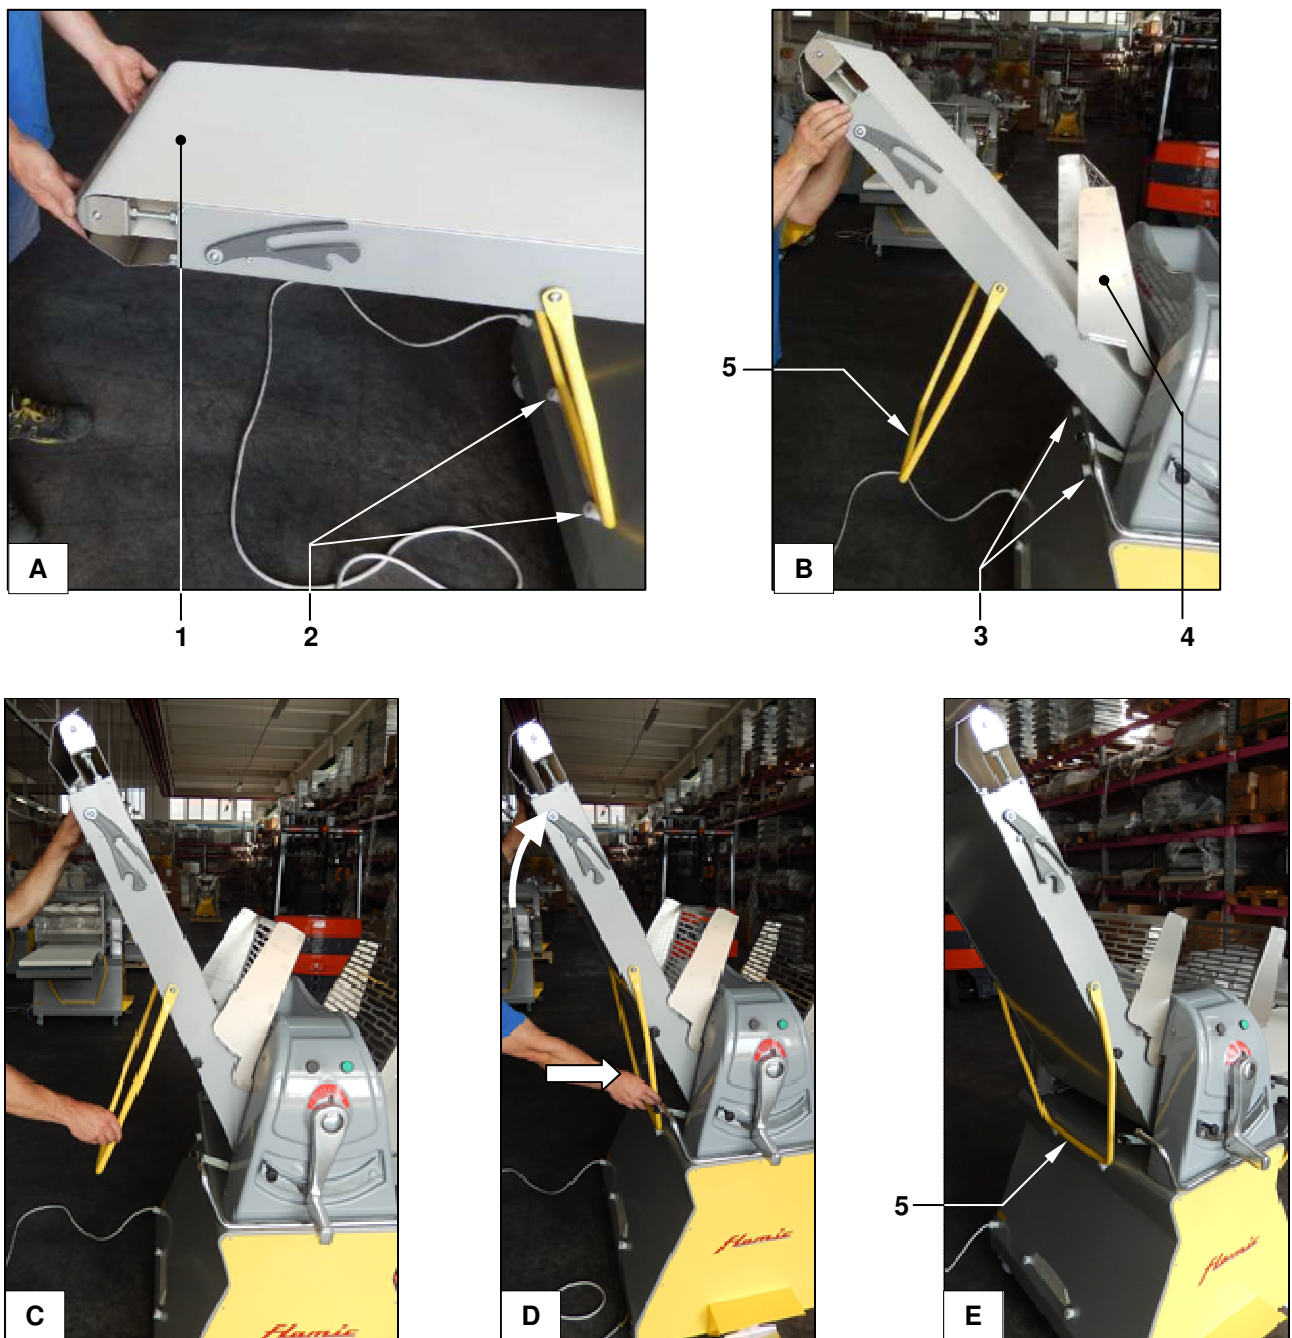

Figure 18 - Raising/lowering the benches (mod. SF600)
With reference to Figure 18, to move a bench ref. 1 from the position shown in photo A to the position shown in photo E:
- raise the guard ref. 4 completely (see section 3.5.1)
- raise the table ref. 1 (photo B)
- for table lengths of ≤ 850 mm: whilst keeping the table raised with one hand, with the other place the horizontal bar of the support ref. 5 onto the blocks ref. 3 (photos C - D - E)
- for table lengths of > 850 mm: whilst one operator keeps the table raised with both hands, the other operator should place the horizontal bar of the support ref. 5 onto the blocks ref. 3